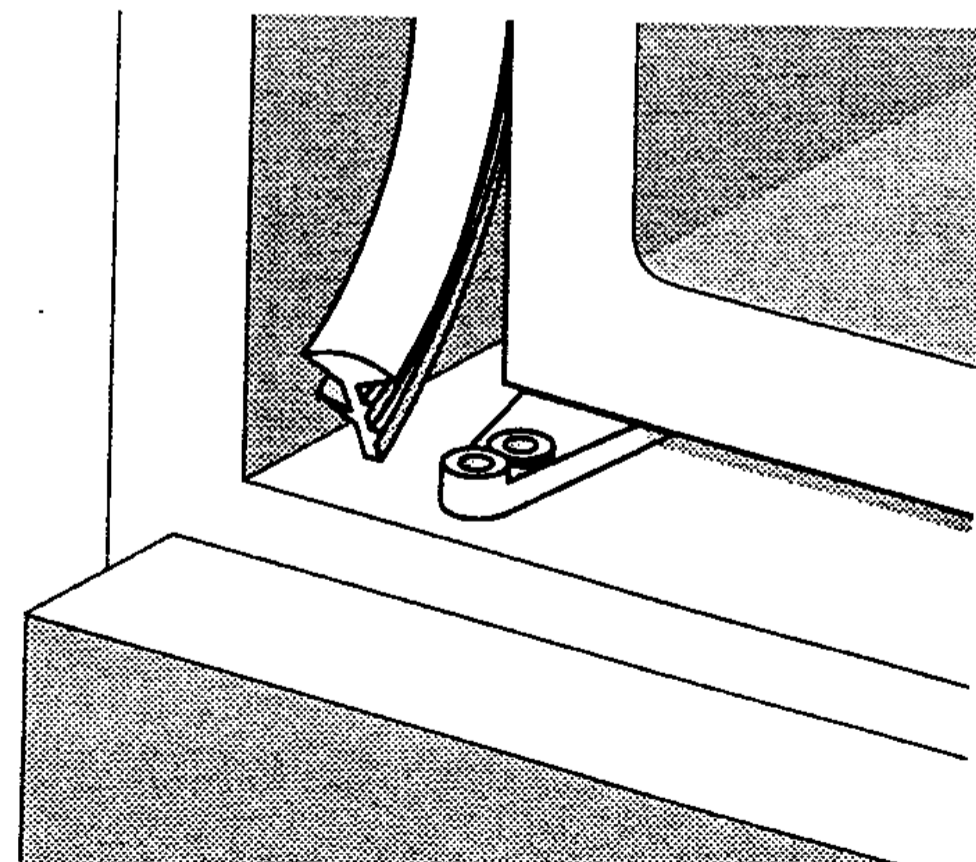

Fig. 6
- ❖ Seal the gap on the opposite side of the hinge with the enclosed strip (Fig. 6).